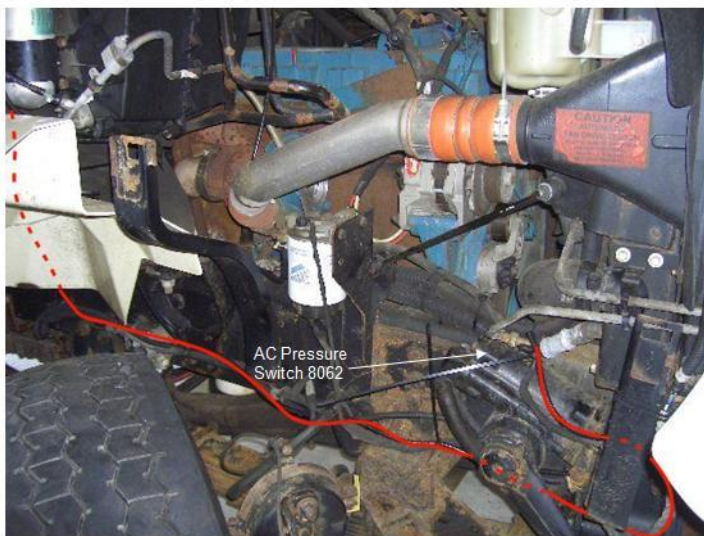

Figure 19
14. Disconnect the two AC Accumulator Thermistor connectors 4018 and 4019 (Figure 18) and the pressure switch 8602 (Figure 19).
21. Route the AC pressure sensor lead and connector 8602 from behind the air handling box down along the bulkhead and forward with the chassis wiring harness above the frame rail until it will lead up to the pressure sensor as shown in Figure 19. Make sure the pressure sensor lead does not come in contact with or close to the turbocharger or exhaust system. Connect 8602 to the pressure sensor and cut the terminal off the old wiring.